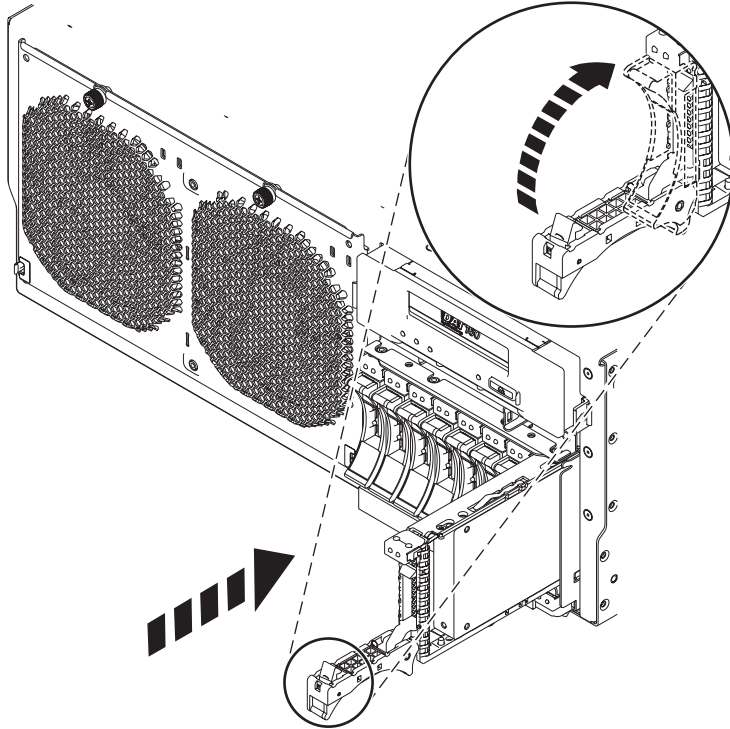

Figure 49. Replacing a disk drive in the system
8. When the identify LED turns on solid, slide the disk drive or solid-state drive all the way into the system or an expansion unit, and push the drive handle **(A)** in until it locks, as shown in Figure 49 on page 75.